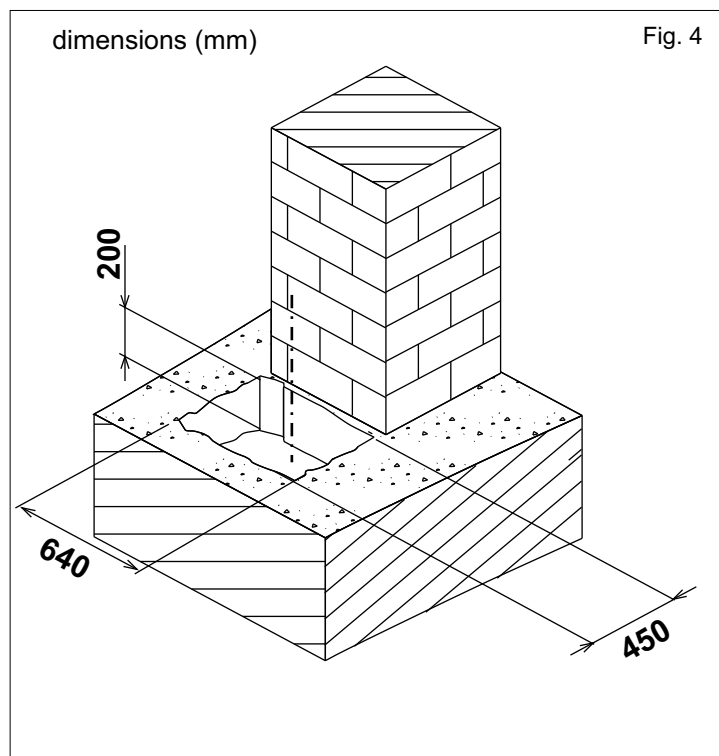

Fig. 4
2.1. The hole which contains the carrying box must have the approximate dimensions mentioned in Fig. 4.